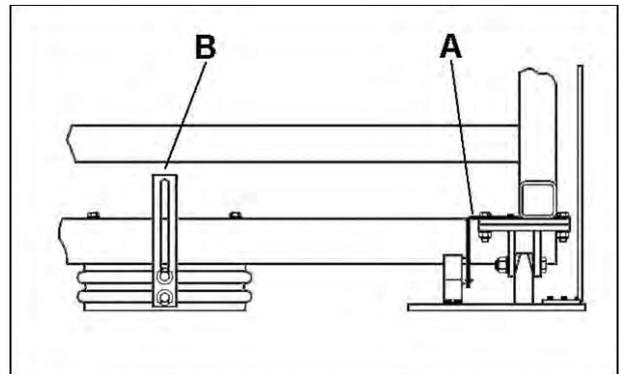

Fig. 4.8
Re-assemble the pneumatic actuator limit switches **B** (Figure 4.8).
5.6. Position detectors assembly and adjustment (Figure 4.8).
The position detectors **A** are disassembled to prevent them from being damaged during transportation. Secure them to the supports, refer to Figure 4.8. Mounting screws: **M6x15**.